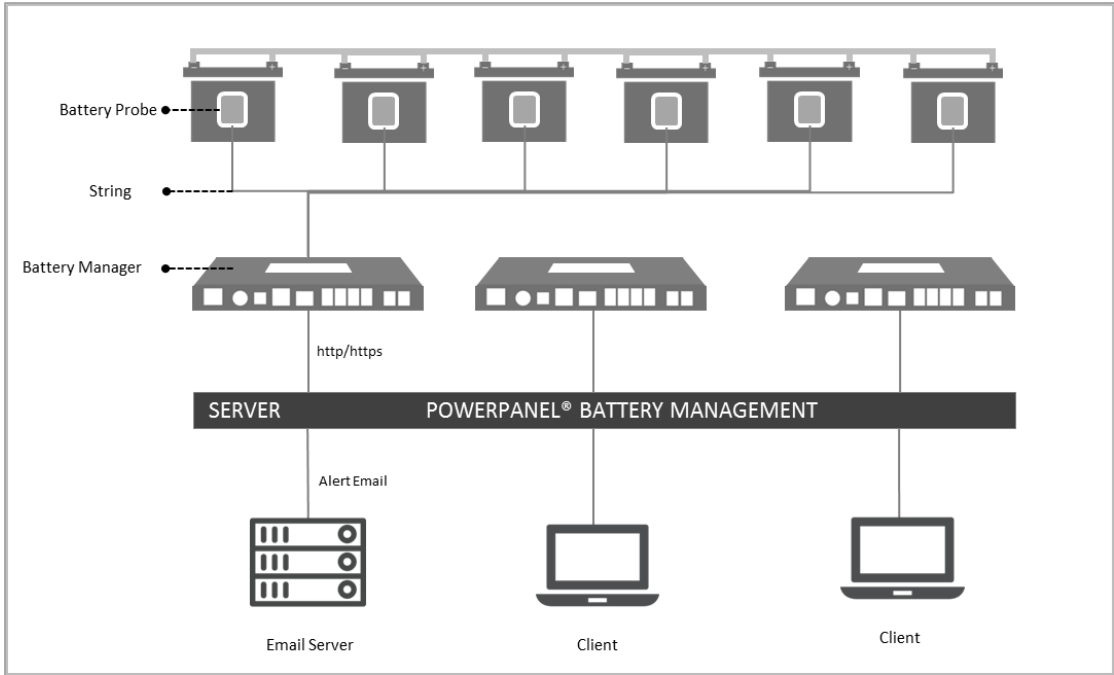

Figure 1.1 Application Scenario
PowerPanel® Battery Management is a server-based software system that adopts the client-server architecture, allowing users to remotely access the system through a web browser on a computer. See Figure 1.1 for the application scenario. It consists of third party lead-acid batteries, CyberPower Probes for measuring the battery parameters (e.g. impedance, voltage, and temperature), CyberPower Battery Manager (BM) for collecting the detailed information on every battery and sending them to the PowerPanel® Battery Management.